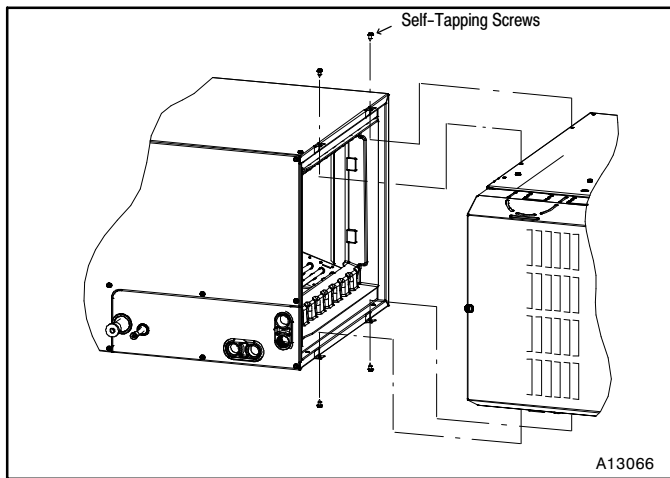

Figure 8 – Horizontal Left Installation
3. Use self-tapping screws to attach furnace. (See **Figure 8**)